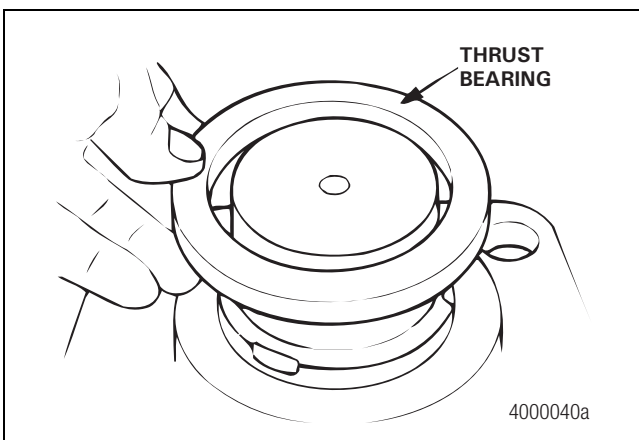

Figure 7.4
6. Install the thrust bearing on the lower cap. Figure 7.4.